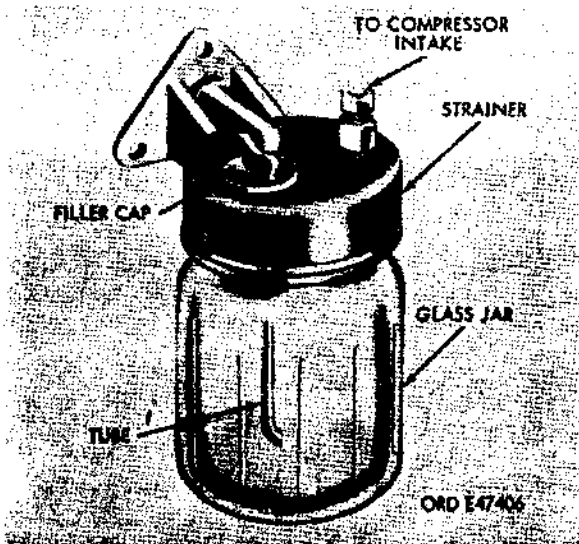

Figure 617. Alcohol evaporator
a. The alcohol evaporator (fig. 617) is used to protect an air brake system from freezing during service in below freezing temperatures. The alcohol evaporator permits vaporized alcohol to be drawn into the air brake system.
487. Disassembly of Alcohol Evaporator Kit (Fig. 617)